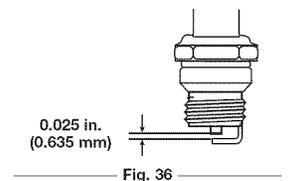

Fig. 36
1. Stop the engine and allow it to cool. Remove the six (6) screws on the back of the engine cover with a Flat-head or T-25 Torx® screwdriver (Fig. 36).
4. Replace cracked, fouled or dirty spark plug. Set the air gap at 0.025 in. (0.635 mm.) using a feeler gauge (Fig. 36).